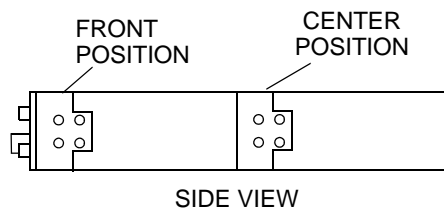

Fig. 5-14 Bracket Mounting Position
- 4 Fix the two brackets to desired position on the MDP, if necessary (see Fig. 5-14).
- (1) Connect ground cable to the ground terminal
- (2) Connect IF cable (with adapter) to IF IN/OUT connector.
- (3) Connect power supply cable to SELV connector.
- (4) Connect DS1, LAN, Aux. signal cables to proper connector.
- (5) Connect XIF coaxial cables to opposite MDP. (XPIC configuration only.)
- (6) Connect XPIC CTRL cables to opposite MDP. (XPIC configuration only.)